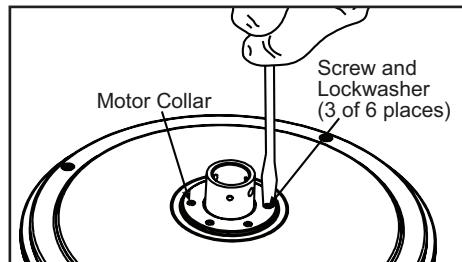

Figure 10
- Remove three of the six screws and lockwashers (every other one) securing the reinforcing plate to the top of the fan motor housing (Figure 10).